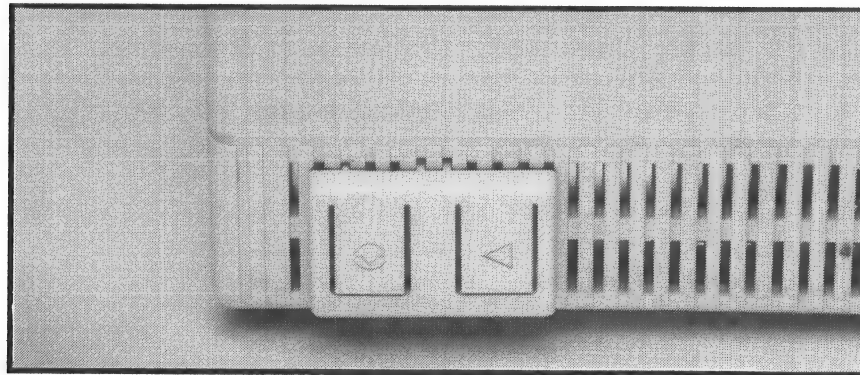

Figure 3-1 Macintosh SE programmer's switch
- ☐ 1. If installed, remove the programmer's switch from the lower left side of the Macintosh, as shown in Figure 3-1.